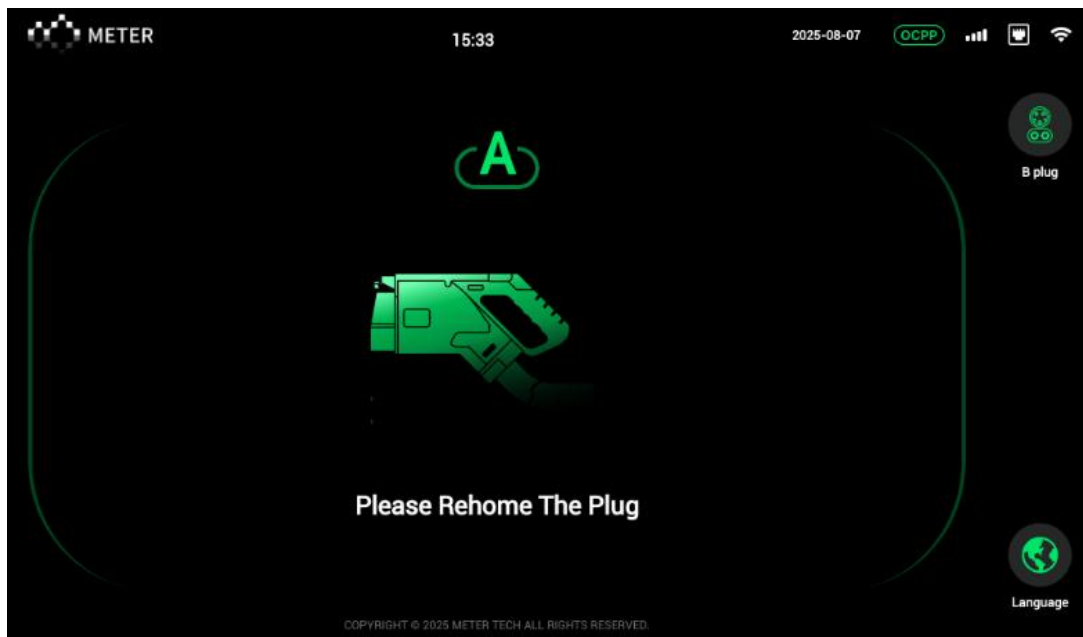

Figure 48. Reminder for Rehome the Plug
6.3.11 After Charging is Complete, Pull Out the Charging Plug and put it in its original position (as shown in Figure 48)